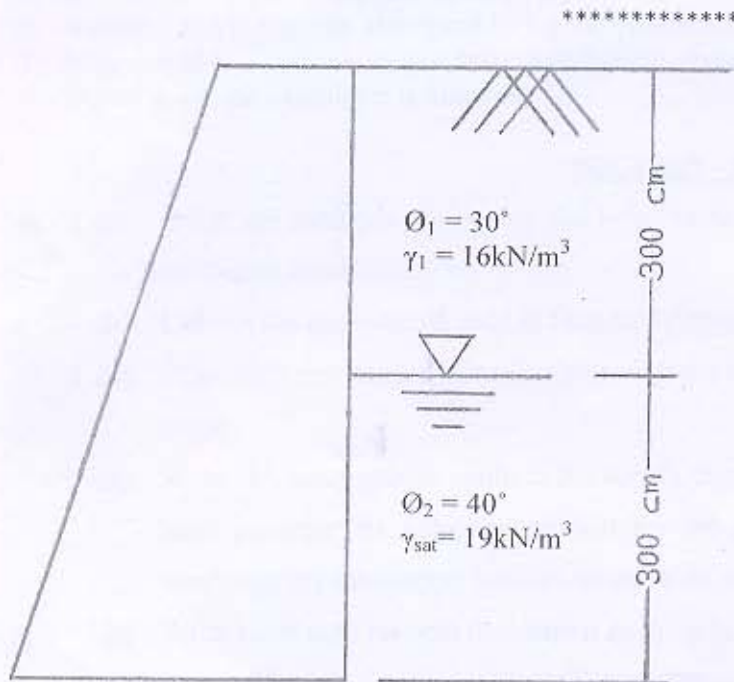

Figure-1 : Q-3 (b)
- (b) For the retaining wall shown in **figure-1**, assume the active condition. Use Rankine's active earth pressure theory to determine; [05]